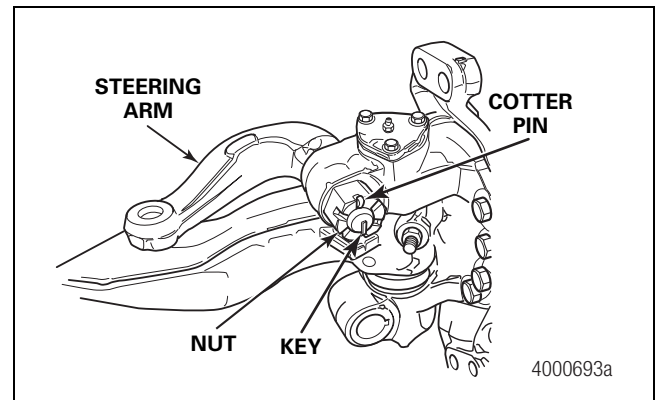

Figure 4.8
2. Remove the cotter pin and nut that fasten the steering arm to the knuckle. Figure 4.8.